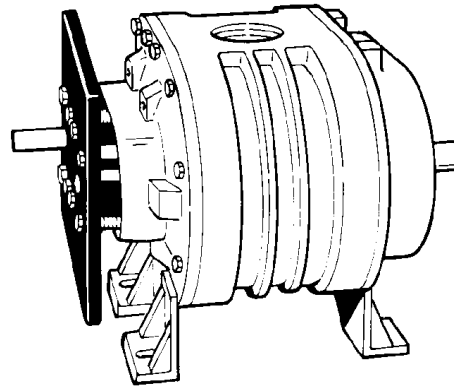

FIGURE 20
7. Apply a light oil to the drive headplate bearing bore, bearing inside diameter, and shaft seat. Install the drive end bearings (14) as far as possible without force.
8. Attach the puller plate shown on page 11 to the drive headplate using the tapped holes used to secure the drive cover (see FIGURE 20, page 17). Tighten the bolts so that the advance of the bearings stay as uniform as possible. Bearings should be pressed until flush with the drive headplate.
9. Lubricate the gear end bearing fits with a light oil as described previously. Install gear end bearings (14) as far as possible without force. Use the plate, used to install the drive end bearings, to press the bearings on the shafts as described in Step 8. Press bearings into the gear headplate until completely seated in the bearing bore.